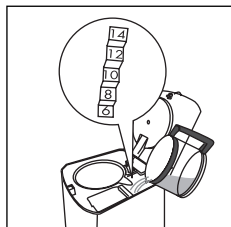

fig. 4
- Lift the lid and fill the tank with fresh, clean water up to the level corresponding to the number of cups of coffee required using the coffee jug marked with the level indicators (fig. 4).